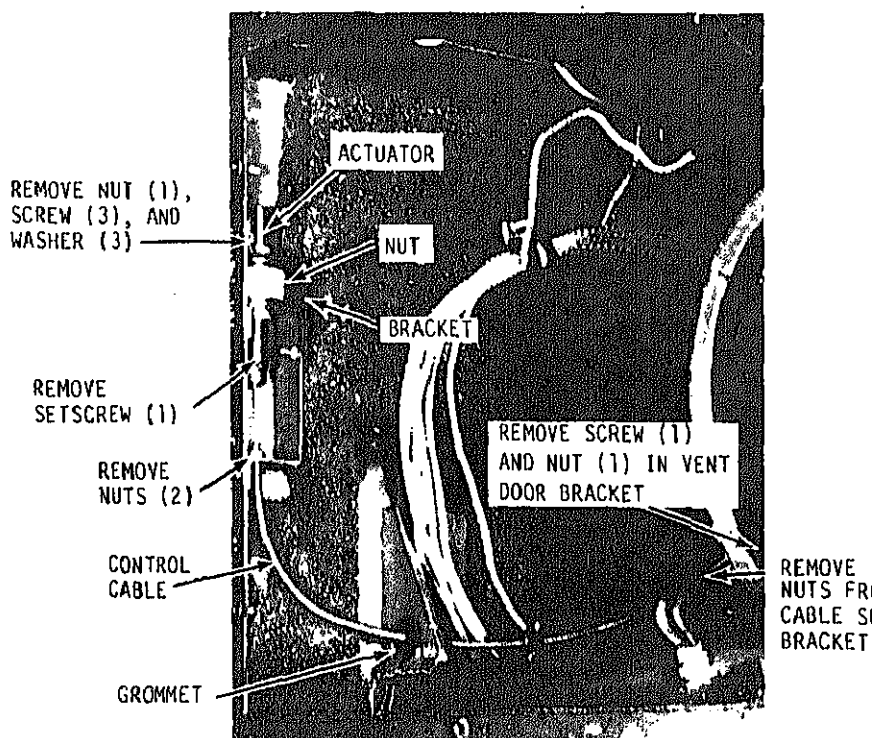

Figure 4-23. Vent damper actuator removal and installation.
(2) Refer to figure 4-23 and disassemble the vent damper actuator and control assembly as follows:
(1) Refer to figure 4-23 and install the vent damper actuator and control assembly as follows: